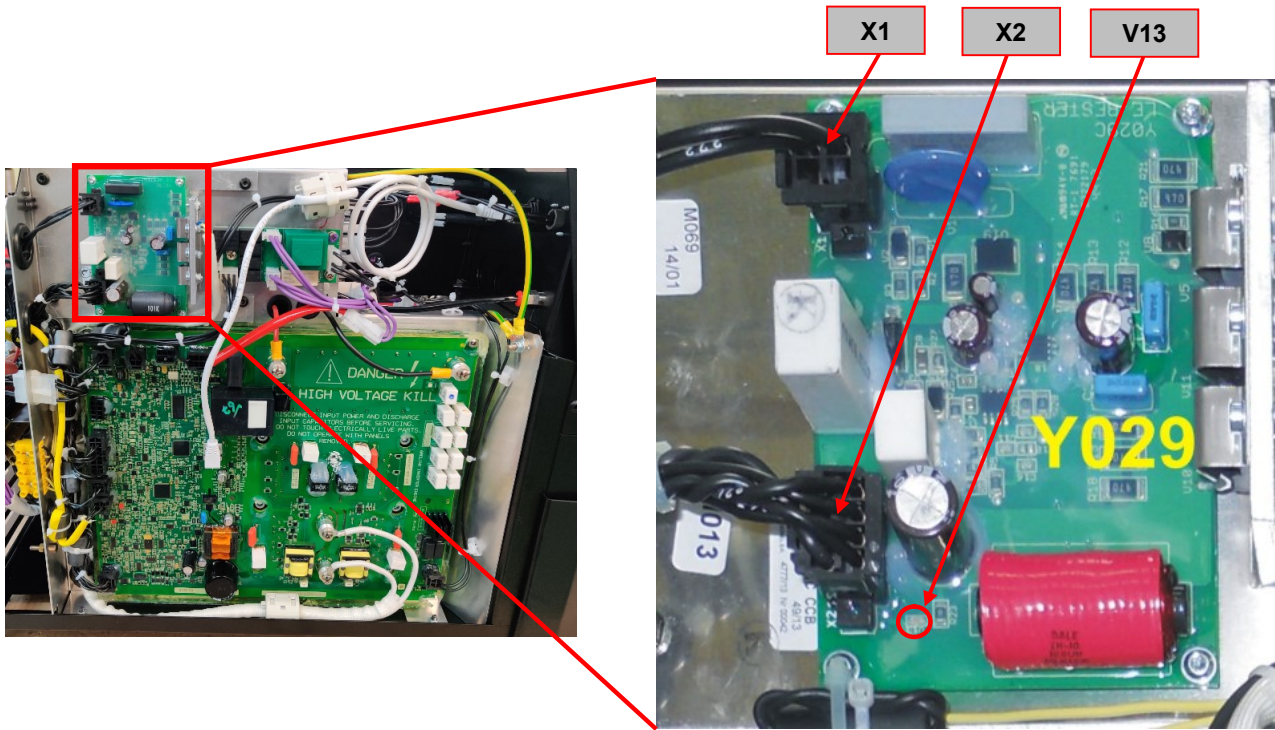

Figure 6 – 40VDC BUS power supply board location and Test Points
3. Locate the 40VDC BUS power supply board. See **Figure 6**.
7. Using the multimeter in VDC mode perform voltage tests detailed in **Test Table 8**. See **Figure 6** for Test Point locations